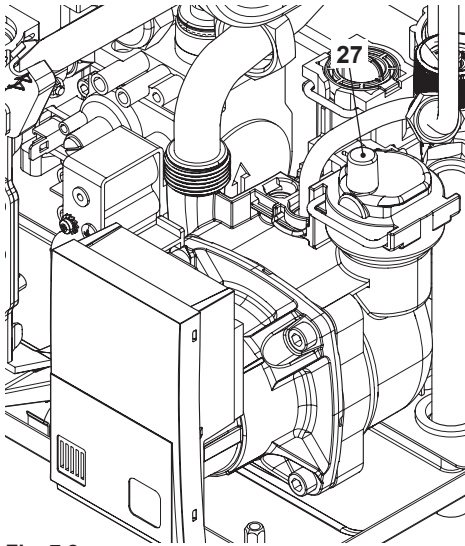

Fig. 7.2
- Unscrew the plug on the automatic air purger valve 27 in Fig. 7.2 and leave open permanently.